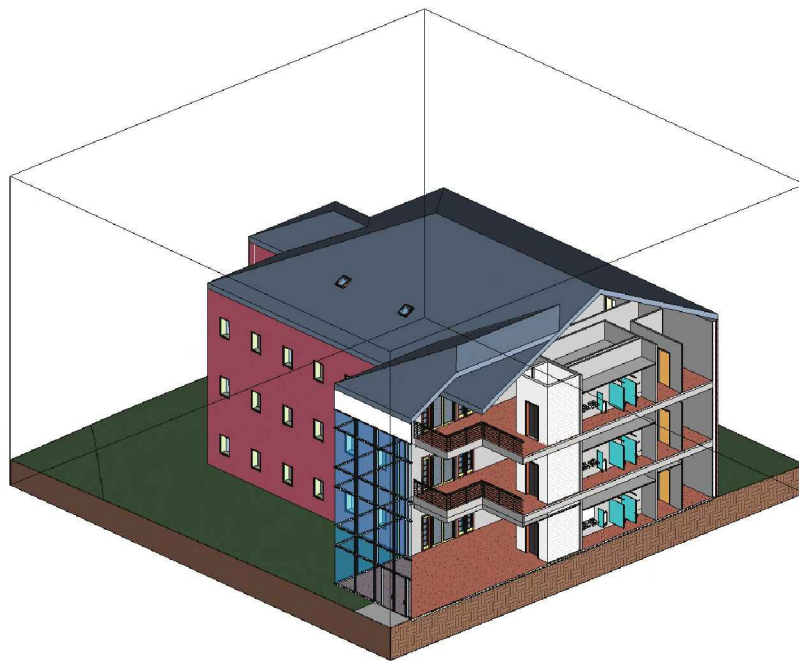

FIGURE 13-3.3
6. Now re-adjust the **Section Box** to look similar to **Figure 13-3.3**. Notice toilet room is visible.